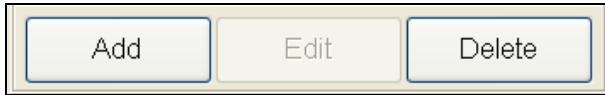

Figure 4.1.1
1. Click on the **Add** button at the bottom of the “**Site / Controller listing**” window (Figure 4.1.1).